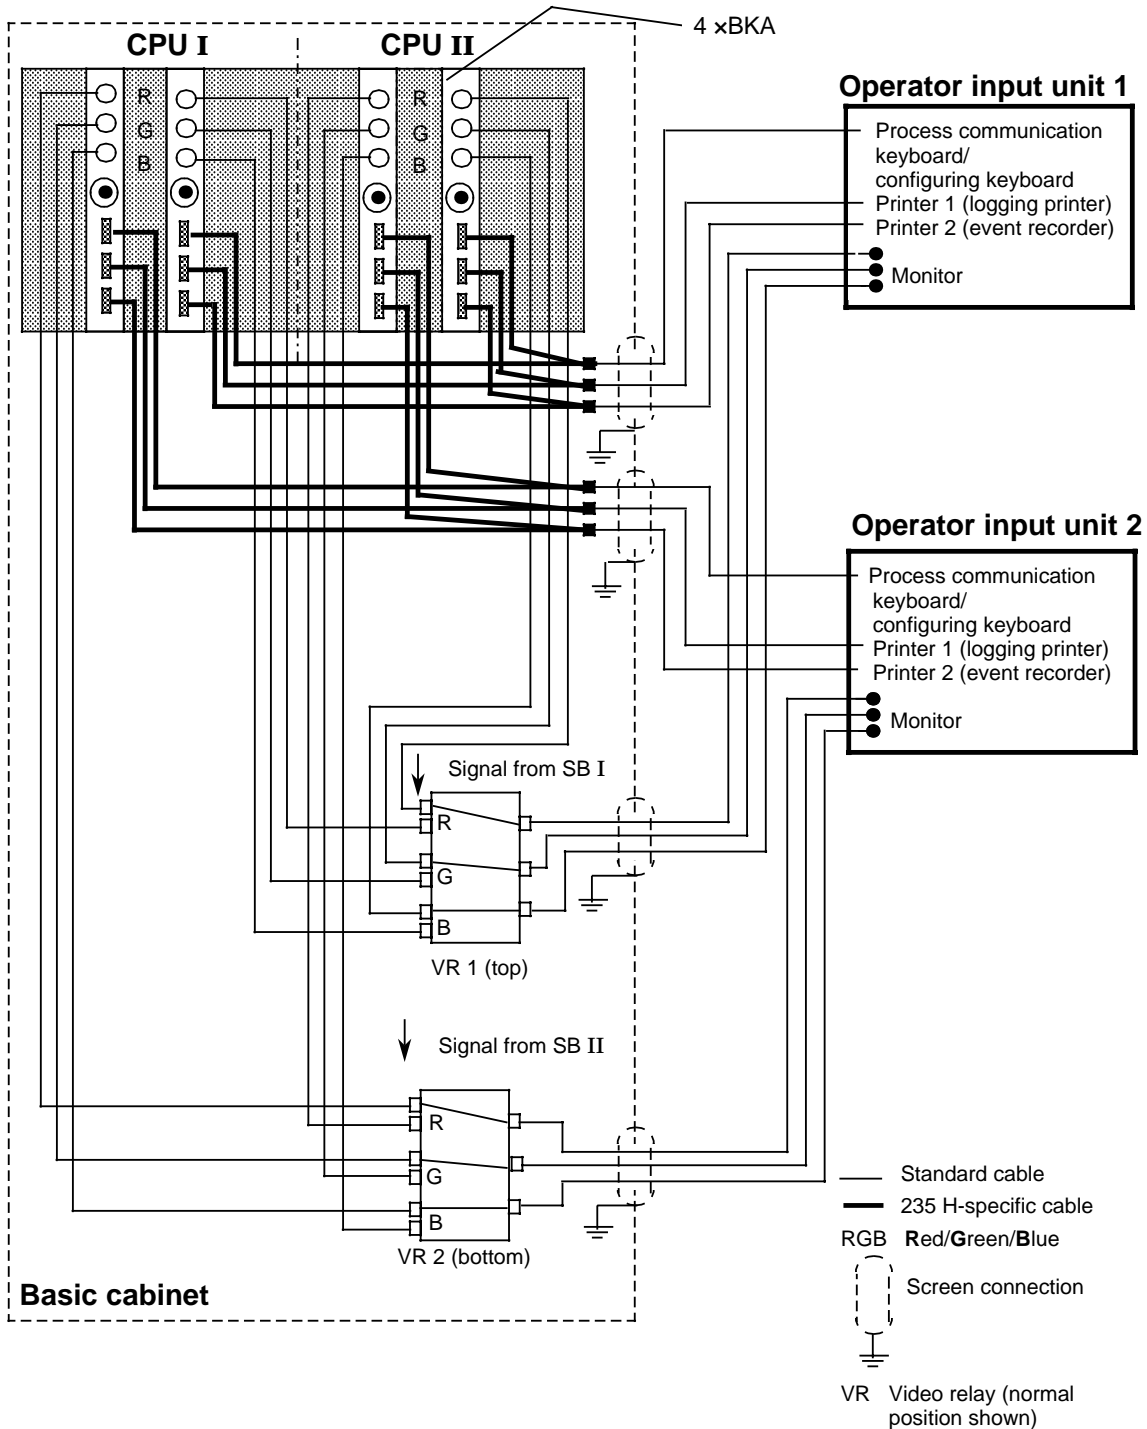

Fig. 3.6 Connecting the operator input units
- The operator input channel interface module (Fig. 3.6)